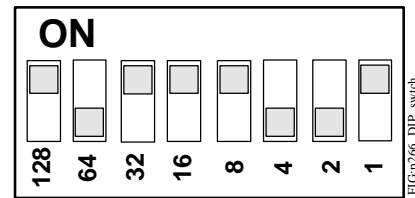

Figure 8: A DIP Switch Block with the Switches Positioned for a Setup Value of 185
2. Position the numbered switches to on so that the total of the switch numbers (in the on position) equals the desired setup value. Start with the highest number switch that is less than the setup value. (For example, if the desired setup value is 185, position switch 128 to on first. Then position switch 32 on, followed by switch 16, switch 8, and switch 1 [$128+32+16+8+1=185$] [Figure 8]).